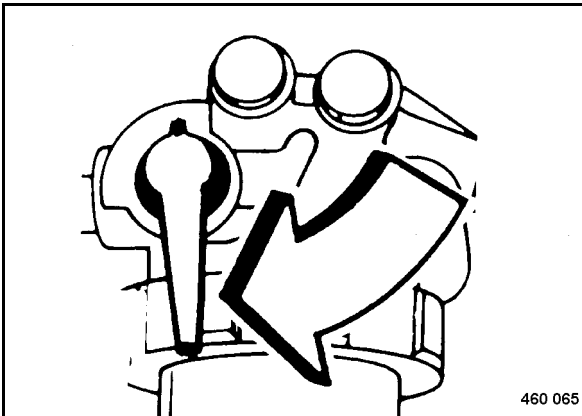

Fig. 104
- Set the fuel shut-off lever (Fig. 104) to vertical position.